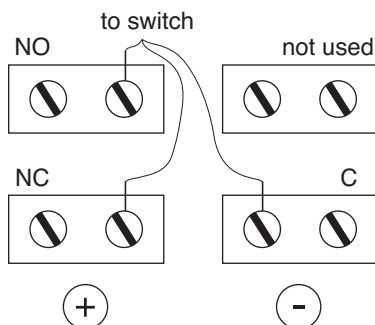
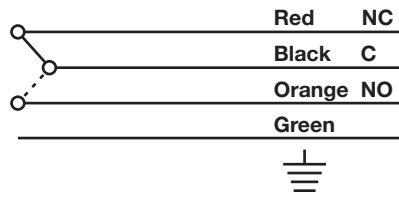

Figure 4
Figure 5
2. SPDT reed switch: Connect wiring to terminals per wiring diagram in Figure 4. Connect wiring to flying leads per wiring diagram in Figure 5.